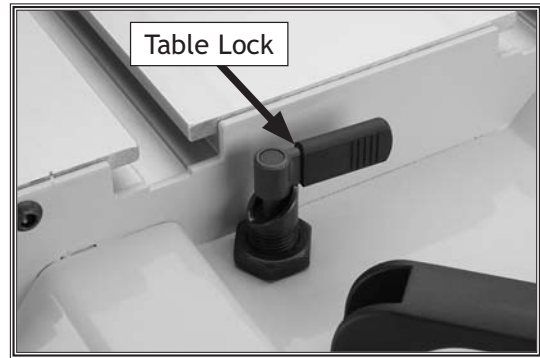

Figure 68. Sliding table lock.
2. Lock the sliding table into a stationary position (see **Figure 68**).